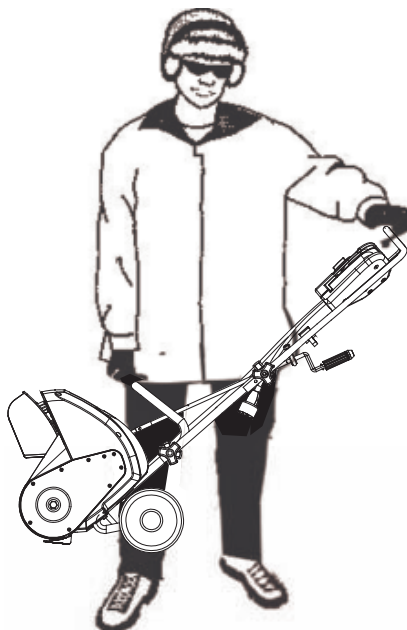

Fig. 10
TRANSPORTING THE SNOW SHOVEL (See Figure 10)
- When moving the Snow Shovel, grasp it by the top and bottom handles (Fig. 10).